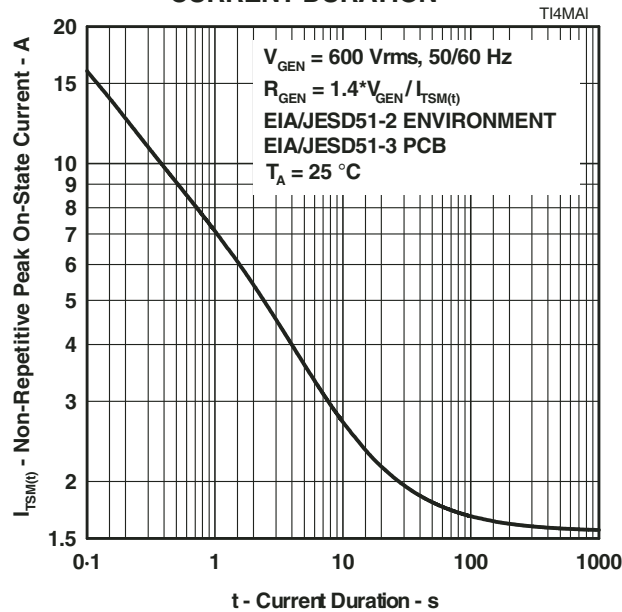

Figure 9.
5. EIA/JESD51-2 environment and EIA/JESD51-3 PCB with standard footprint dimensions connected with 5 A rated printed wiring track widths. See Figure 9 for the current ratings at other durations. Derate current values at  $-0.61\% / ^\circ\text{C}$  for ambient temperatures above  $25^\circ\text{C}$ .
The protector can withstand currents applied for times not exceeding those shown in Figure 9. Currents that exceed these times must be terminated or reduced to avoid protector failure. Fuses, PTC (Positive Temperature Coefficient) thermistors and fusible resistors are overcurrent protection devices which can be used to reduce the current flow. Protective fuses may range from a few hundred milliamperes to one ampere. In some cases, it may be necessary to add some extra series resistance to prevent the fuse opening during impulse testing. The current versus time characteristic of the overcurrent protector must be below the line shown in Figure 9. In some cases, there may be a further time limit imposed by the test standard (e.g. UL 1459 wiring simulator failure).